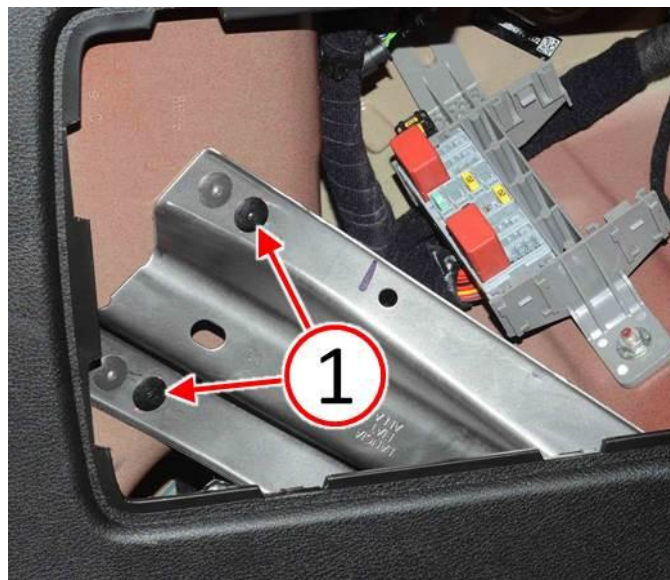

Fig. 4 Secure Rivets In Drilled Holes
7. Using a suitable rivet installation tool, secure the four steel rivets (1) into the four drilled holes (Fig. 4).